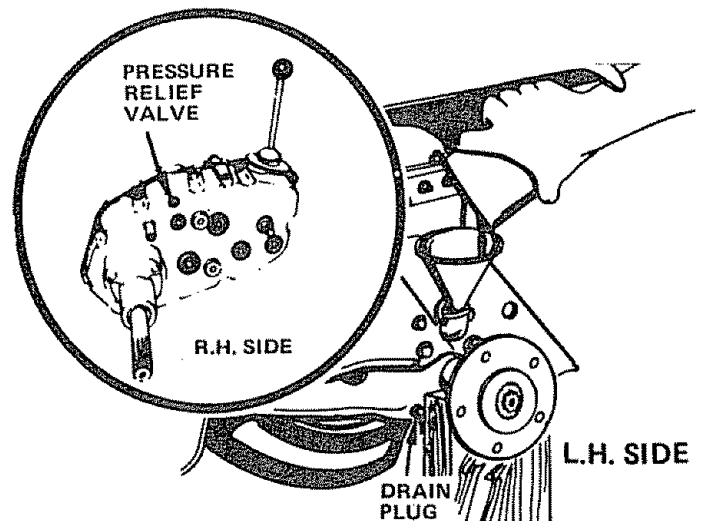

FIGURE 45
- Block up Rear Axle (Fig. 45) securely or use a Tractor Jack. Remove left Rear Wheel by removing Hub Bolts.
- Refill Transaxle with S.A.E. 30 (SC, SD or SE) Motor Oil. Capacity is 5 quarts. Pressure Relief Valve (R.H. side of Transaxle) (Fig. 45 - Inset) may be held open to allow Transaxle to fill more quickly.
- Check Pressure Relief Valve (Fig. 45 - Inset) located on R.H. side near top. It should spring completely closed when pulled out by hand and released.